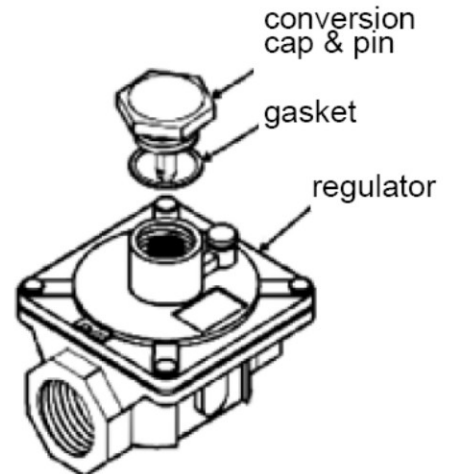

fig. 1 Gas pressure regulator
7. To operate with LP gas the regulator must be changed to operate at 10" W/C. (see fig. 1 on page 4) To do this remove the converter cap and pin from the regulator, remove the pin and invert then reinstall in the cap. Replace the cap on the regulator taking care that the gasket is in place on the cap.